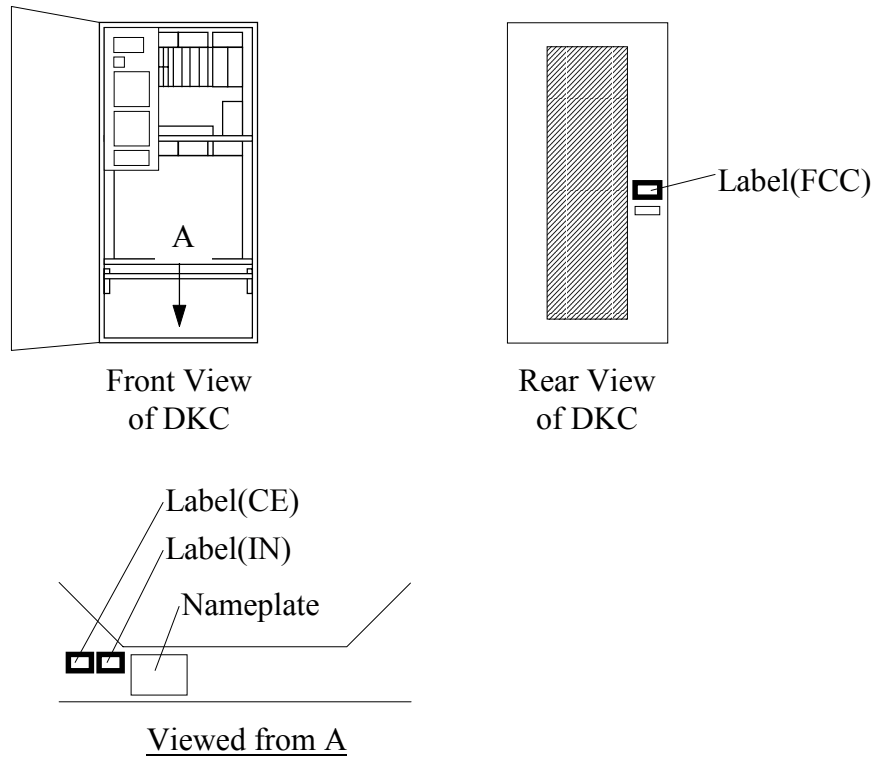

Fig. 3.22.3-17 Removal of Labels
d. Attach the cable duct cover and fasten the two screws. Refer to Fig 3.22.3-1.